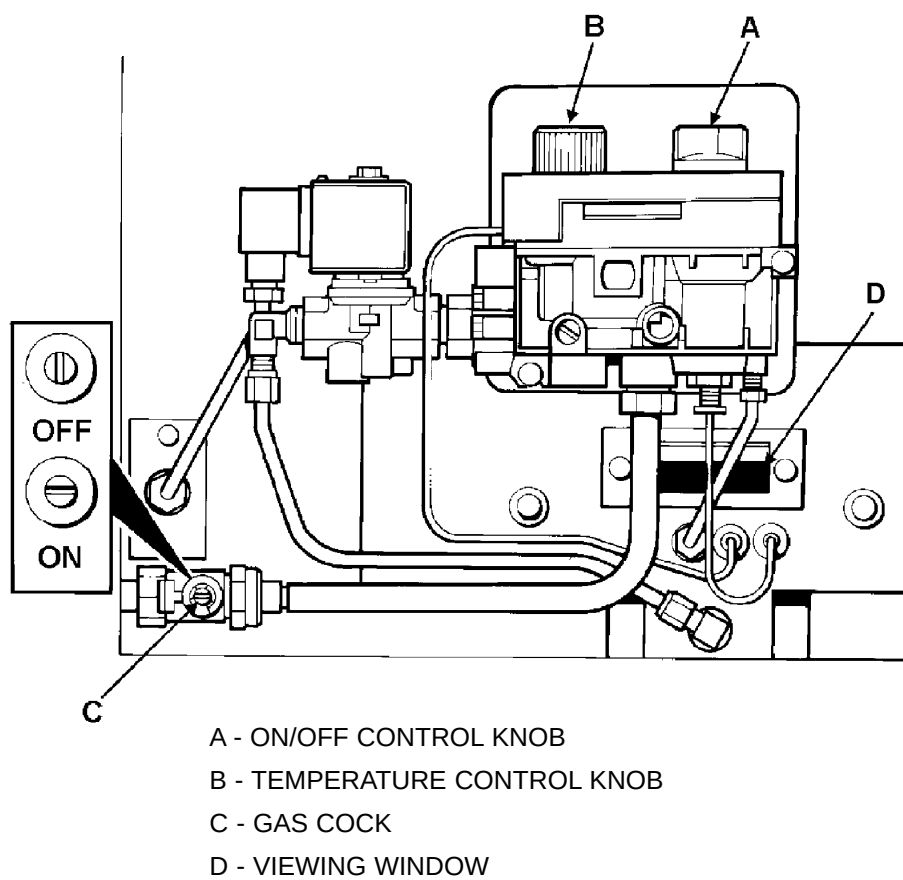
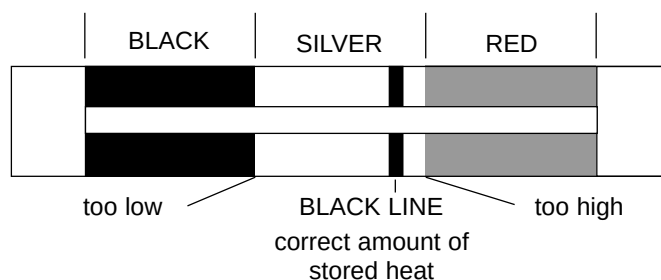

Fig. 2
Fig. 9
When the cooker is in use, the temperature control knob (B) (See Fig. 2) should be between 6 and 7, with the indicator on or about the black line in the silver section of the heat indicator (See Fig. 9). It may be necessary to adjust the temperature control knob slightly to achieve this.
CAUTION: BEFORE LIGHTING: ENSURE KNOB (A) IS IN THE OFF POSITION (SEE FIG. 4). ALSO ENSURE GAS SUPPLY TO COOKER IS ON, AND THE SERVICE GAS COCK (C) IS IN THE ON POSITION (SEE FIG. 2), AND THE ELECTRICAL SUPPLY TO THE AGA IS SWITCHED ON.